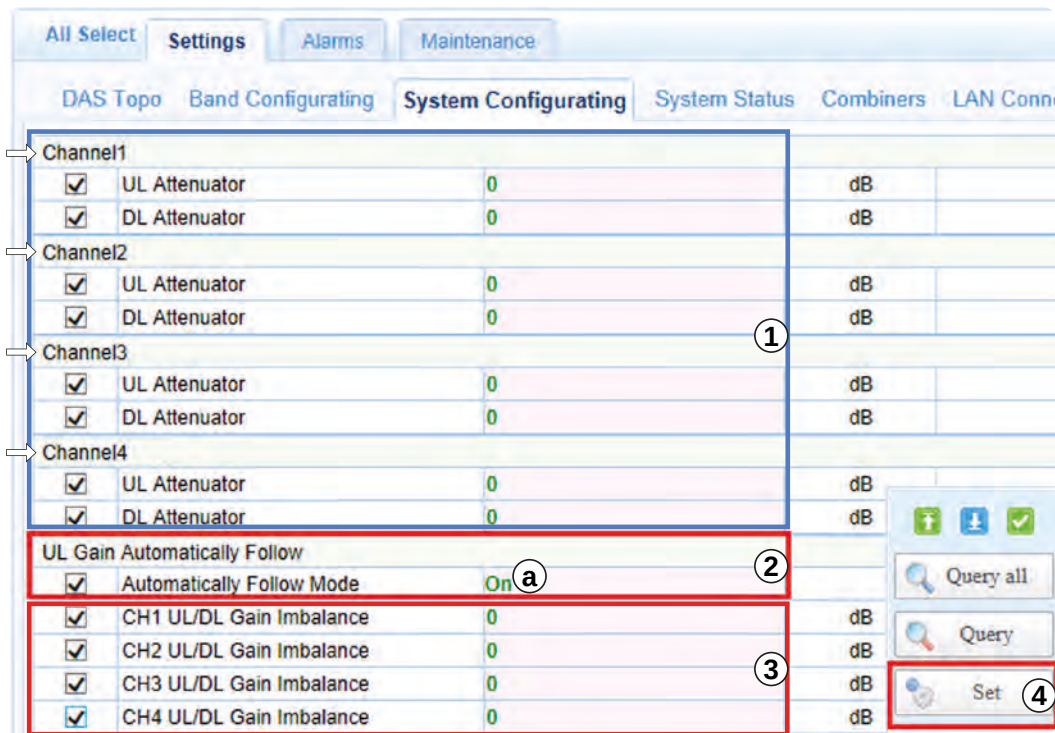

Fig. 13: Band gain parameters (C-hub)
3. Set the **UL Gain Automatically Follow** mode **On** or **Off** (②③ in Fig. 13).
- a. Configure the **UL/DL Gain Imbalance** for each C-hub channel (③).